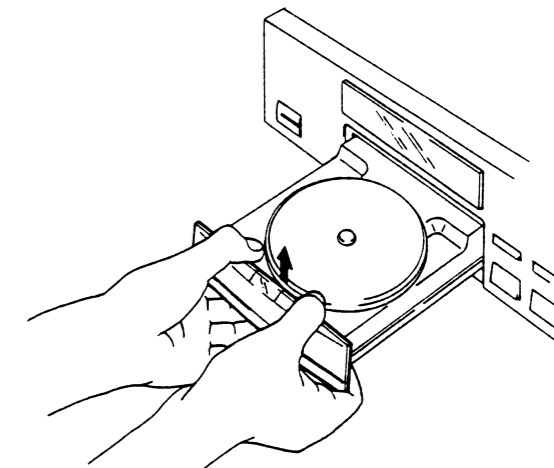

Fig. 1
- Use nippers or other tool to cut the two sections marked ① in figure 1. Then remove the spacer.
- While supporting the spindle motor shaft with the stopper, put spacer on top of the motor base (angled so it doesn't touch section ②), and stick the disc table on top (takes about 9kg pressure). Take off the spacer.
Hold the tray panel with your hands as the figure shown right, and grasp the tray with your thumbs and then lift the tray panel up while pulling it toward you with the other fingers.(Figs. 1 and 2)